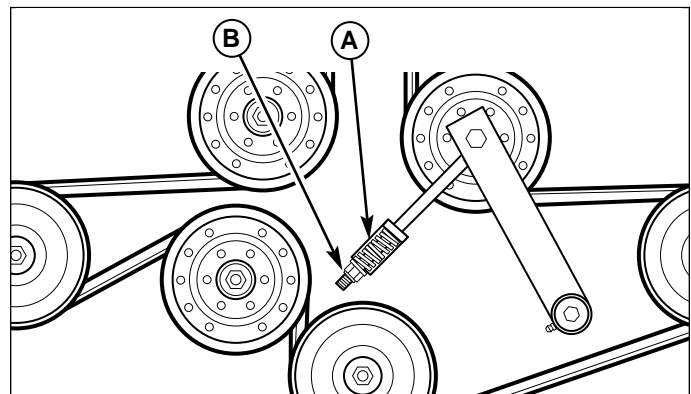

Figure 35. Mower PTO Belt
3. Loosen the spring compression nut (B, Figure 35) to release the belt tension.
6. Install the drive belt on the PTO pulley, the spindle pulleys and idler pulleys. Tighten the spring compression nut (B, Figure 35) until the belt tension spring (A, Figure 35) is compressed to 1-5/8" (4,12cm) long.